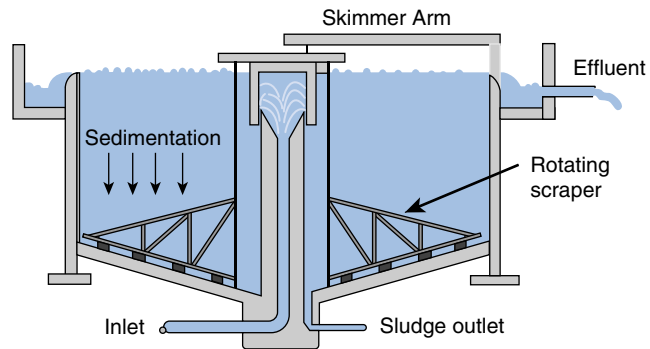

FIGURE 18.3
- **Gravity settling tanks** (also referred to as clarifiers and sedimentation tanks): gravity causes the higher density solid particles to settle at the bottom of the tank. The cross section of a circular settling tank is shown in Fig. 18.3.